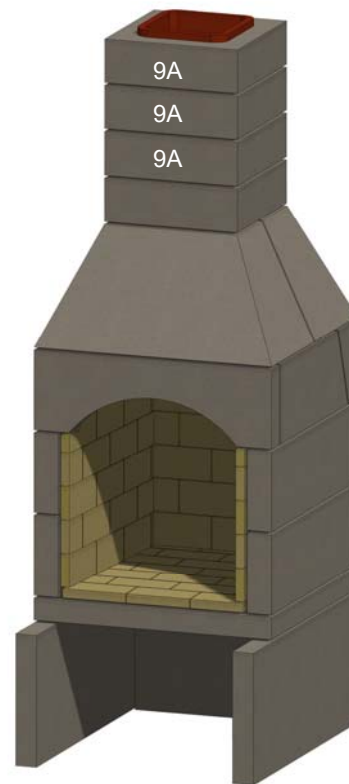

Figure 23. Chimney Complete
O. Install the remaining chimney sections (9A), fully bedding each piece in mortar, and filling in the gap between the clay tiles in each section. Parge the joints to create a smooth transition between each chimney section. Note that if a tile is chipped or slightly out of square, it may be used as long as the joints are filled and smoothed with high temperature mortar. See Figure 23.